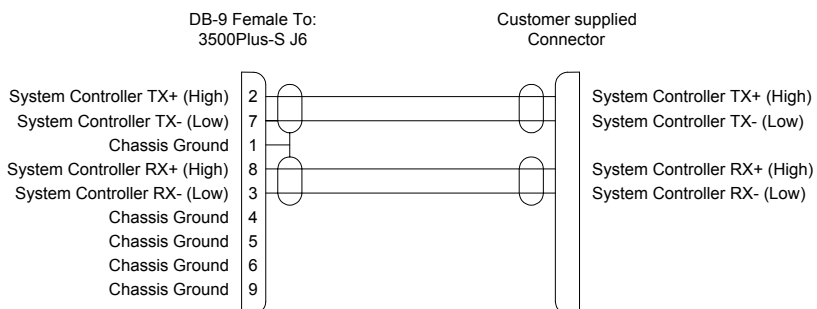

Figure 30. 3500Pro-S RS-422 CPU Link Cable
- COM 4 is an RS-422 CPU Link similar to the RS-232 CPU Link, except the cable may be up to 4000 feet in length and an RS-422 interface card must be installed in the expansion bus. COM 4 may be used with any of the protocols shown in Table 2 on page 27. If necessary, a cable may be fabricated in the field as shown in Figure 30.